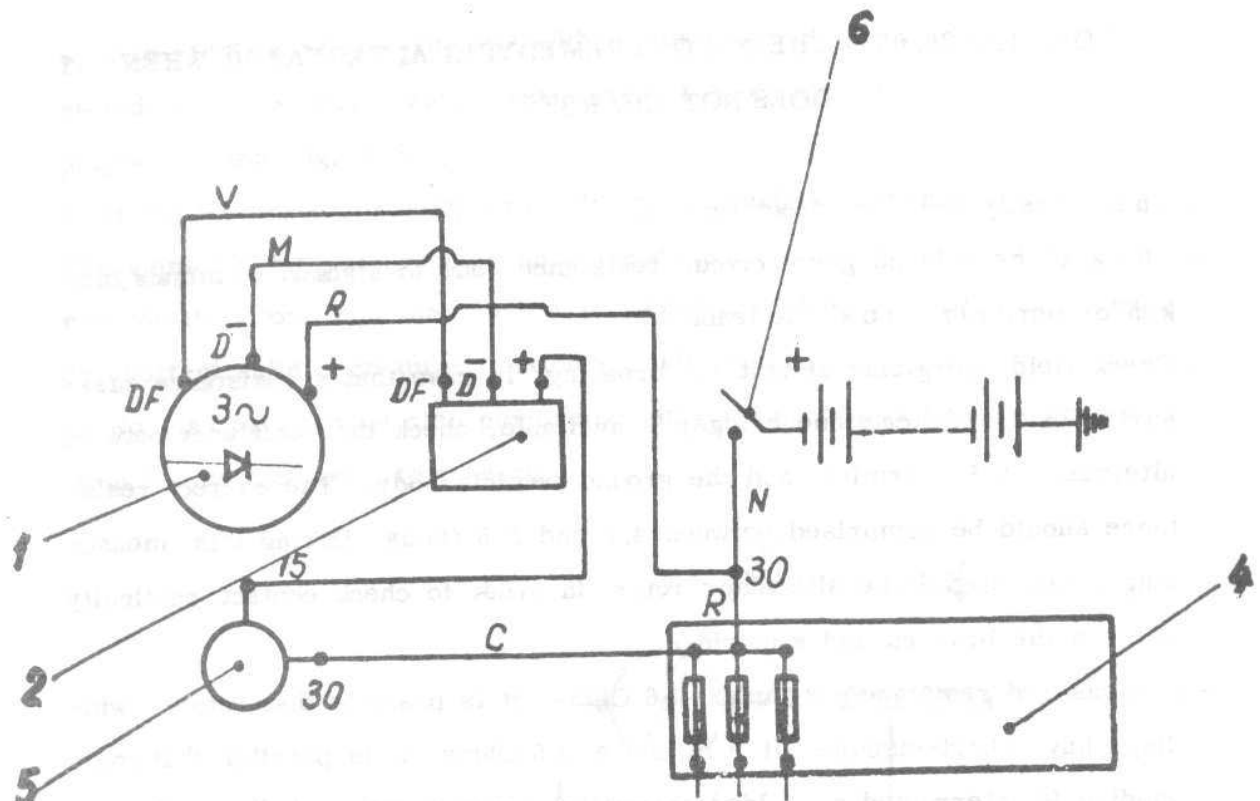

Fig. 4.33. CONNECTION DIAGRAM FOR INSTALLING 1111-TYPE ALTERNATOR ON ARO VEHICLES.
- To do that, check alternator terminals and terminal connections, voltage regulator terminals, the starter relay "30" terminal, the first three of the fuse box left underside, the "30" and "15" terminals of the switch key, as well as the ground connections (see Fig. 4.33).
Check firstly if connections are correct, according to connecting diagram (see Fig. 4.33).